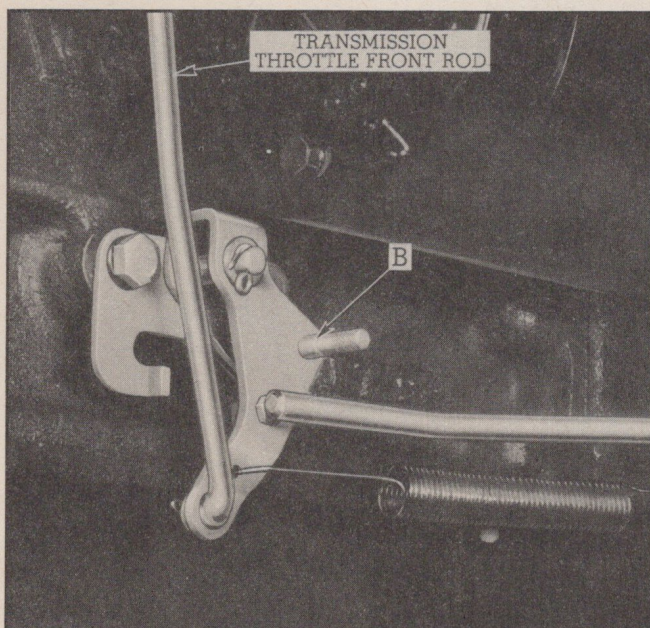

Fig. 72—Adjusting Pin Installed at "B"
5. Install second linkage adjustment gauge pin through transmission throttle rod idler lever and bracket in hole marked "B" (Fig. 72).